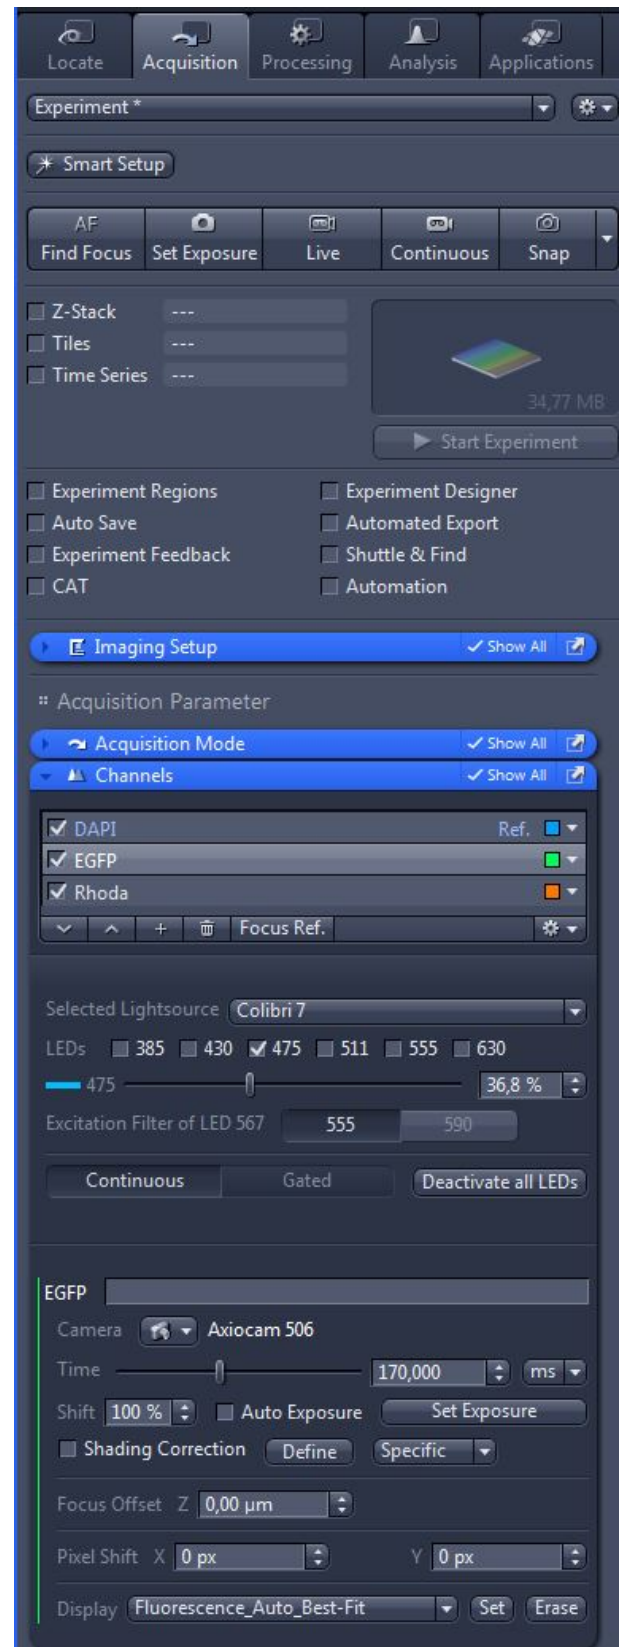

Fig. 19 Colibri 7 control via "Channels" tool
- Click on the **Acquisition** tab in the software (see Fig. 19).